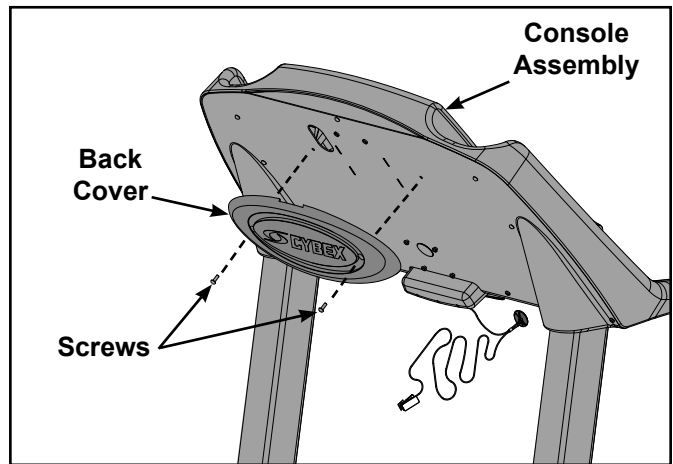

Figure 24
- A. Using a Phillips screwdriver, remove the two screws securing the back cover to the console assembly. See Figure 24.